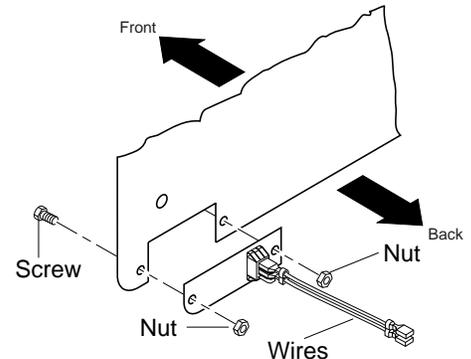
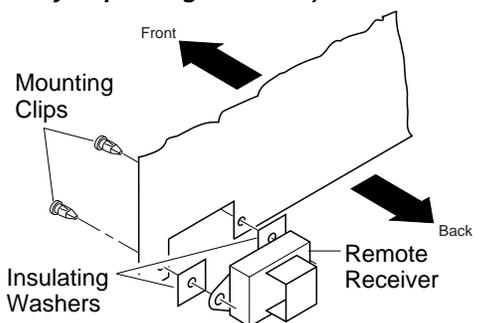

Figure 17 - Switch Plate and Wiring Harness (Switch Plate and Orientation May Vary Depending On Model)
Figure 18 - Installing Remote Receiver
3. Remove switch plate (see Figure 17). Discard after removing.
4. Install remote receiver unit onto gas log heater base using clips (2) and insulating washers provided.
5. Push clips firmly into place (see Figure 18).